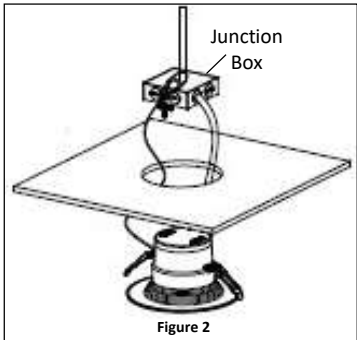

Figure 2
4. Connect the fixture wires to a junction box (Sold Separately) and make the wiring connections according to the **Wiring Diagram**. **See Figure 2.**